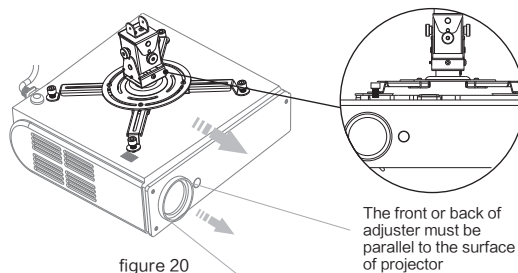

figure 20
5. The front or back of adjuster must be parallel to the surface of projector as figure 20.